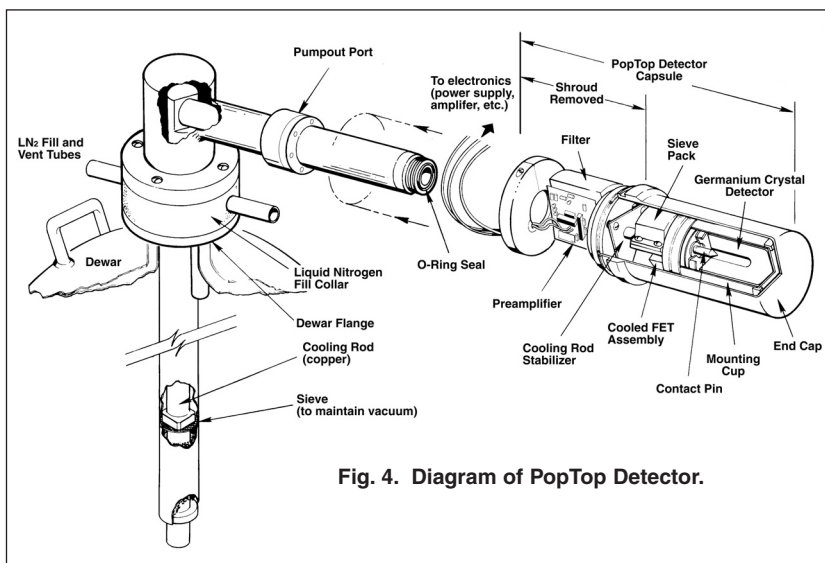

Fig. 4. Diagram of PopTop Detector.
- A Si(Li) detector element (Fig. 4) mounted, in most systems, inside the vacuum enclosure of its PopTop capsule.
The essence of a PopTop detector system is that the HPGe detector element cryostat, preamplifier, and high voltage filter are housed in a detector “capsule” which is then attached to an appropriate cryostat (Figure 4.)